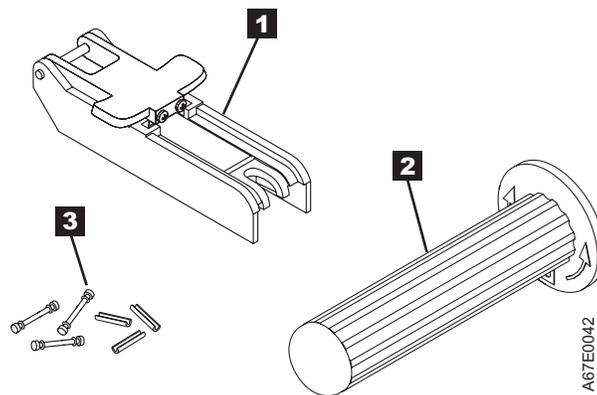

Figure 44. Leader Pin Reattachment Kit
- **Leader pin attach tool** (see **1** in Figure 44). A plastic brace that holds the cartridge door open.
- **Cartridge manual rewind tool** (see **2** in Figure 44). A device that fits into the cartridge's hub and lets you wind the tape into and out of the cartridge.
- **Pin supplies** (see **3** in Figure 44). Leader pins and C-clips.